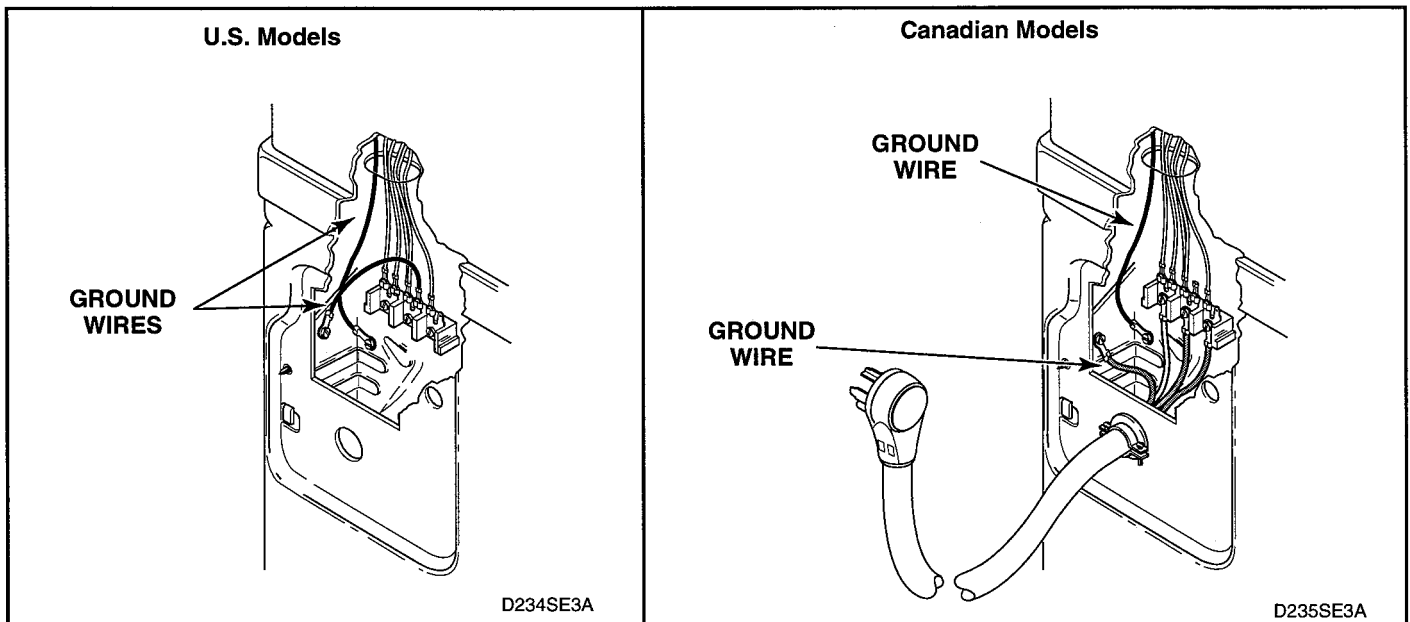

Figure 4-1
1. GROUND WIRES FROM TERMINAL BLOCK TO REAR BULKHEAD AND FROM REAR BULKHEAD TO CONTROL HOUSING (Electric Models Only – Figure 4-1).